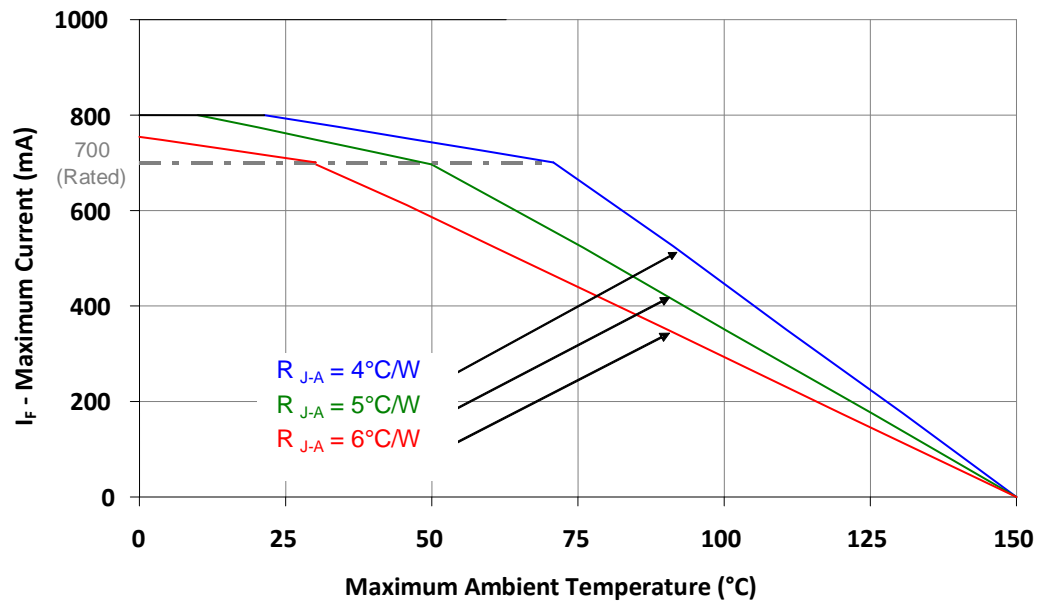

Figure 10: Maximum forward current vs. ambient temperature based on $T_{J(MAX)} = 150^{\circ}\text{C}$.
- Maximum DC forward current (per die) is determined by the overall thermal resistance and ambient temperature. Follow the curves in Figure 10 for current de-rating.
Notes for Figure 10: